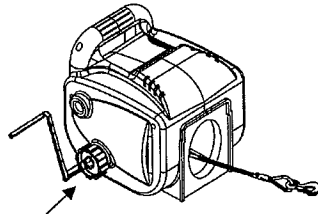

Fig. 7 Emergency hand crank is placed on clutch knob shaft, with clutch fully tightened.
2. Make sure that clutch knob and nut are fully tightened. Insert crank socket onto clutch knob shaft. (**see Fig. 7**)